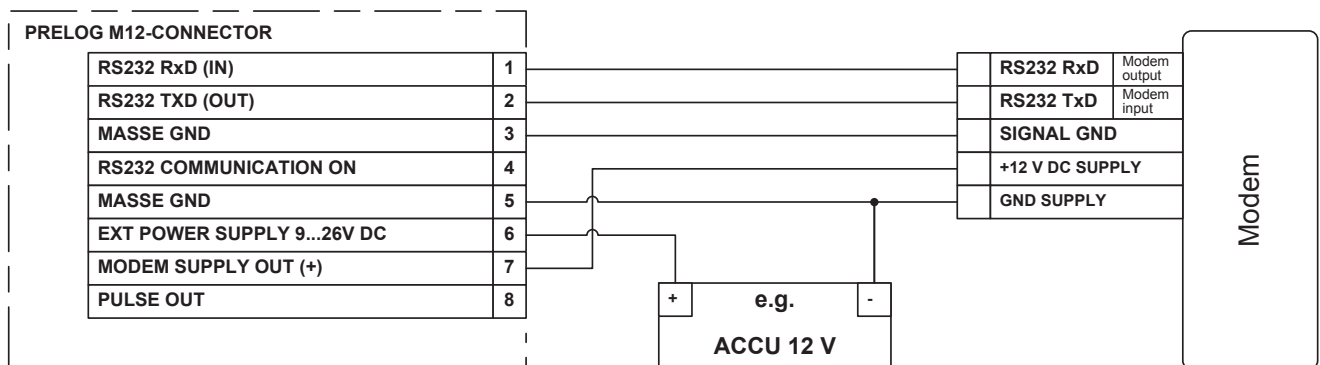

Fig. 09
If the PreLOG should only actively communicate via GPRS using a modem at the RS232 interface (e. g. of the GPRS solar set), the control pin “RS232 Communication ON” (4) must not be connected to the “Masse GND” pin. In this mode external communication with the PreLOG via the RS232 interface is not available. (In Fig. 09 the solar charge controller of the GPRS solar set is not shown!)